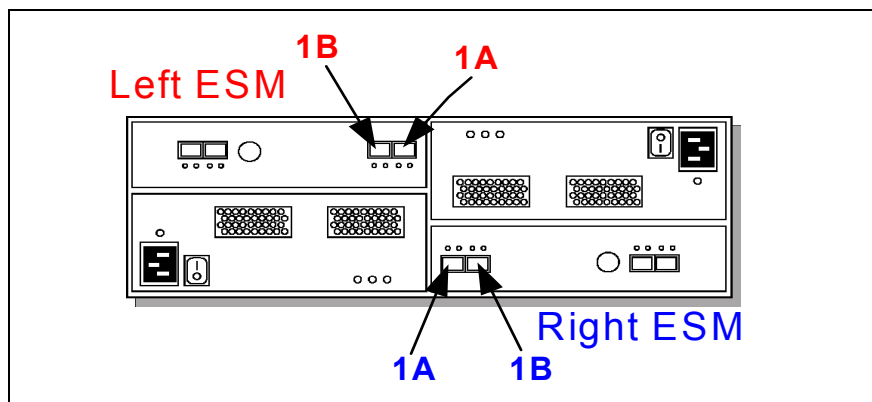

Figure 3-29 Port labels on EXP810
- ▶ The DS4700 controller drive port must always be connected to the EXP 810 port labelled 1B. Because the left and right EXP 810 ESMs (ESMs A and B) are inserted in the ESM bays in different orientations, ensure that you use the port labeled 1B before making the Fibre Channel connection to the DS4000 storage server. Refer to Figure 3-29.